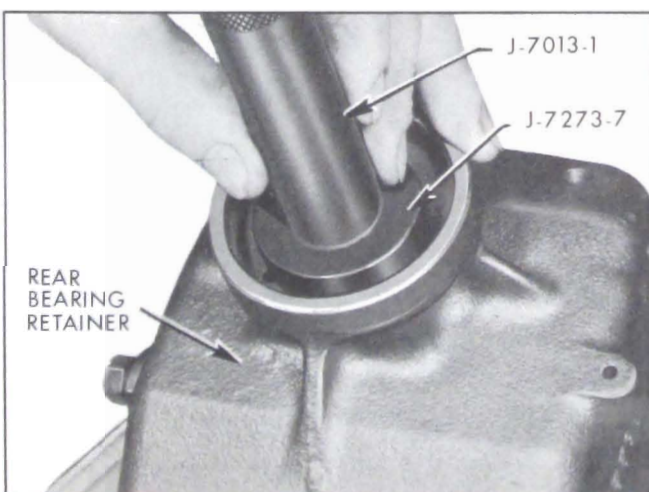

Figure 5-99—Installing Bushing in Rear Bearing Retainer
scored drive bushing out using Tool J-7273-7 and handle J-7013-1. See Figure 5-99.
1. If new bushing is being installed, drive bushing into place (flush with counter bore) using tool J-7273-7 and handle J-7013-1. See Figure 5-99. Coat O.D. of new seal with Permatex and install with J-8864.